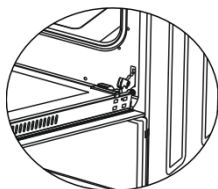

Figure 1.2
3. Next, carry out the unlocking operation by lighting the small hooks using a screwdriver (Figure 1.2).